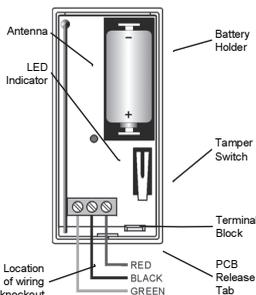

Figure B- 38: EL-2661 Transmitter (Cover Off)
13. Connect the detector's cable to the terminal block as shown in Figure B- 38.